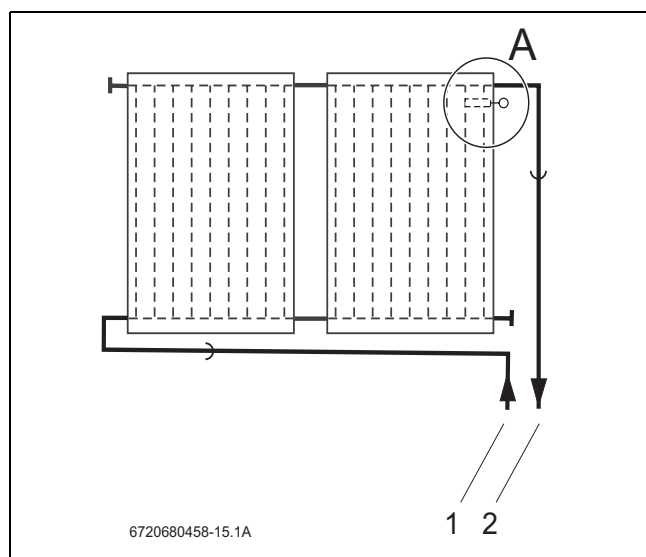

Fig. 47 Insertion location for the collector sensor (schematic view)
- Take note of the location of the sensor pocket for single or multi row installations, ensuring that it is always on the top right hand side of the collector (Fig. 47, [1]).
The collector sensor must be inserted with flow pipework connected - always on the top right hand side of the collector (Fig. 47, [2]).
- Insertion location (Fig. 47, [A]).